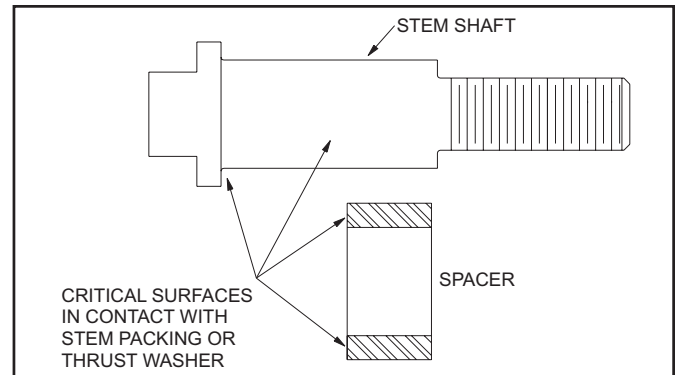

Figure 8 - Valve Stem and Spacer Surfaces
2.2.3.2 Inspect the surfaces of the spacer bushing that contact the stem packing and thrust washer (Fig. 8). Also, inspect the surface of the stem shaft. These surfaces should be smooth and clean.